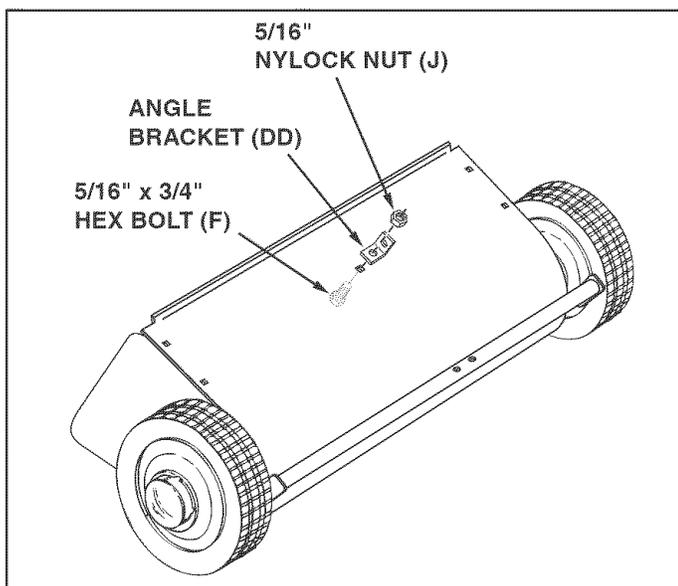

FIGURE 5
STEP 5: (SEE FIGURE 5)
- Assemble the angle bracket (DD) to the sweeper housing using a 5/16" x 3/4" hex bolt (F) and a 5/16" nylock nut (J). Make sure the bracket is turned as shown and aligned straight with the housing and then **tighten**.